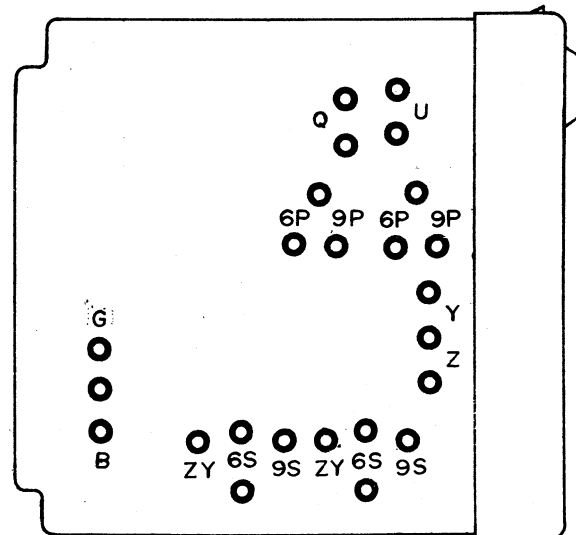

Figure 2. 7370 Strapping Post Location
5.02 The 7370 is provided with strapping options that provide for matching either 600 or 900 ohm impedance on the line or drop; 48 or 96 Vdc operation, by-pass ringing, and pulsing contact protection. Perform these strapping procedures in accordance with the following and Figure 2.